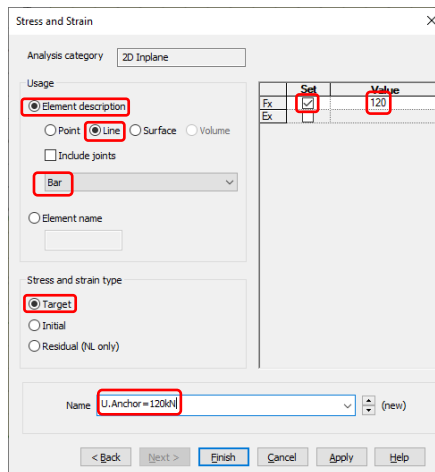

Figure 37: Definition of anchor forces
- Click the radio button **Strain and stress** followed by the radio button **Stress and strain** and then **Next**. In the dialog ensure that the **Element Description** radio button is on, that the **Line** radio button is on, that **Bar** is visible in the dropdown list and that the **Target** radio button is on. Check the **Fx** tickbox and enter **120** in the value field. Enter a name of **U.Anchor=120kN** and click **Apply** (figure 37).